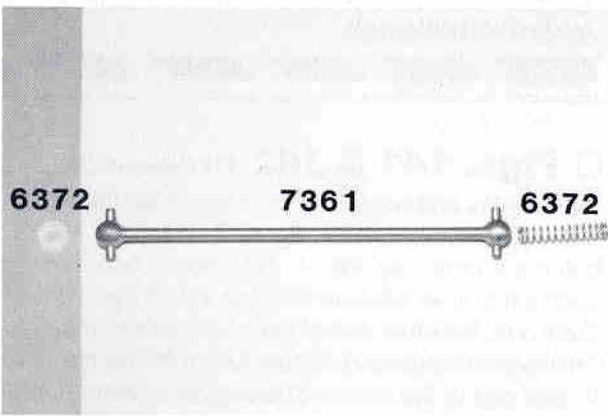
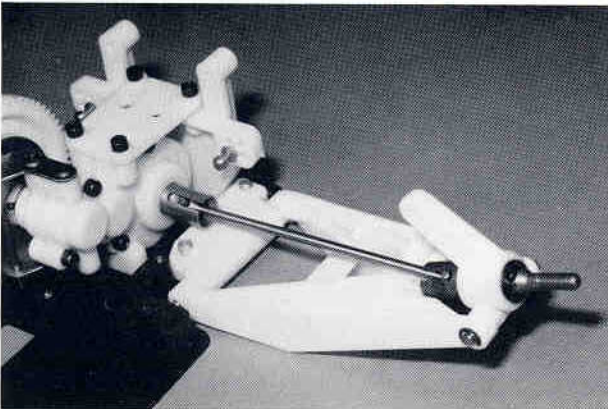

Fig. 133
Fig. 134
□ **Figs. 133, 134 & 135** (1) Remove the two #7361 dogbones, two #6372 dogbone springs and two #6372 dogbone spacers from bag #7-8 (fig. 133). (2) Take one of the dogbone spacers and install it inside the left hand diff outdrive hub. Push it in until it rests against the T-nut. (3) Now take one #6372 dogbone spring and install it inside the #6374 left rear stub axle. (4) Now install the dogbone into the slot in the left hand rear axle then (5) install the other end into the slots on the left hand diff outdrive, fig. 134. (6) Repeat the steps for the right hand side parts.